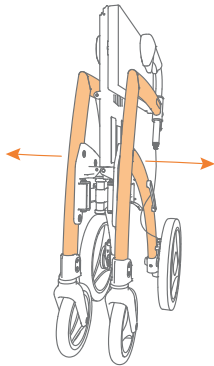

Figure 10: Unfold by pulling the frame outwards.
- a. Pull the frame sides of the Rollz Motion Electric apart until almost completely unfolded (**Figure 10**).